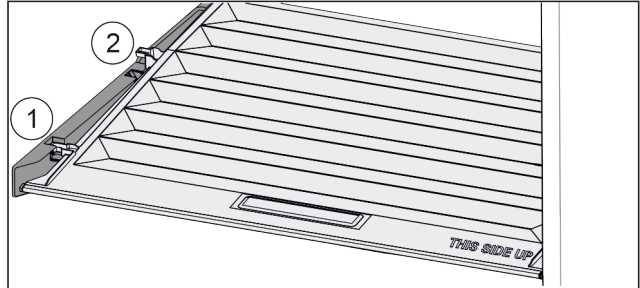

Fig. 89
- ▶ Pull the lid up at the front to the opening in the retaining parts Fig. 89 (1).
- ▶ Lift from the back and pull it up and out Fig. 89 (2).